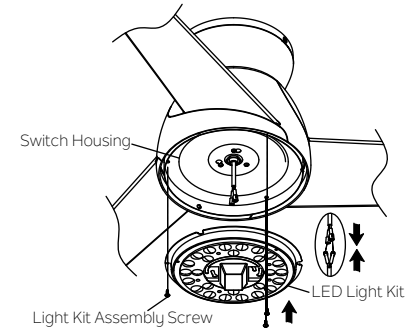

Fig. 19
Step 1. Hold the light kit close to the switch housing and connect the WHITE wires from the light kit and fan by pushing the connectors together. Follow the same procedure with the BLACK wires. (Fig. 19)
Step 2. Tuck the connections neatly into the light kit. Align three round holes on the light kit and switch housing. Securely tighten with 3 screws found in light kit hardware pack. (Fig. 19)